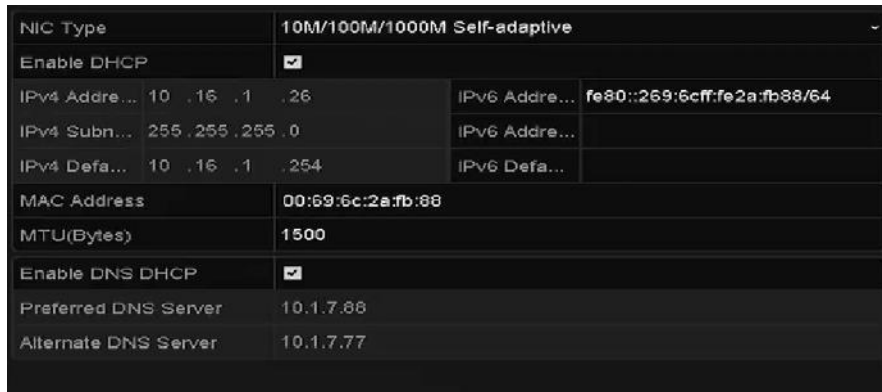

Figure 11-17 Network Settings Interface
Step 2 Set the IPv4 Address, IPv4 Subnet Mask, IPv4 Gateway and the Preferred DNS Server in the Network Settings menu, as shown in Figure 11-17.